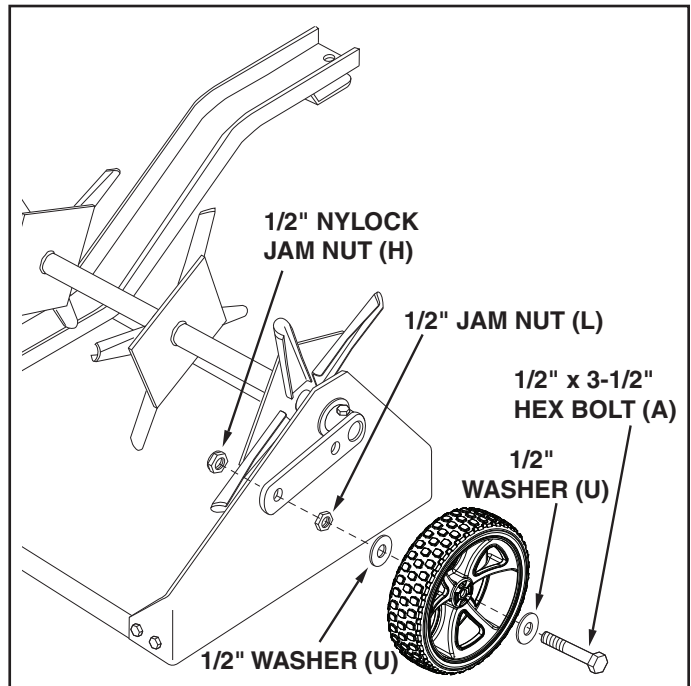

FIGURE 9
13. Assemble a wheel to a wheel bracket as shown in figure 9. Use a 1/2" x 3-1/2" hex bolt (A), two 1/2" washers (U), one 1/2" hex jam nut (L), and one 1/2" nylock jam nut (H). Adjust the nuts so that the wheel is held securely with minimum end play but will spin freely. Repeat on other side. See figure 9.